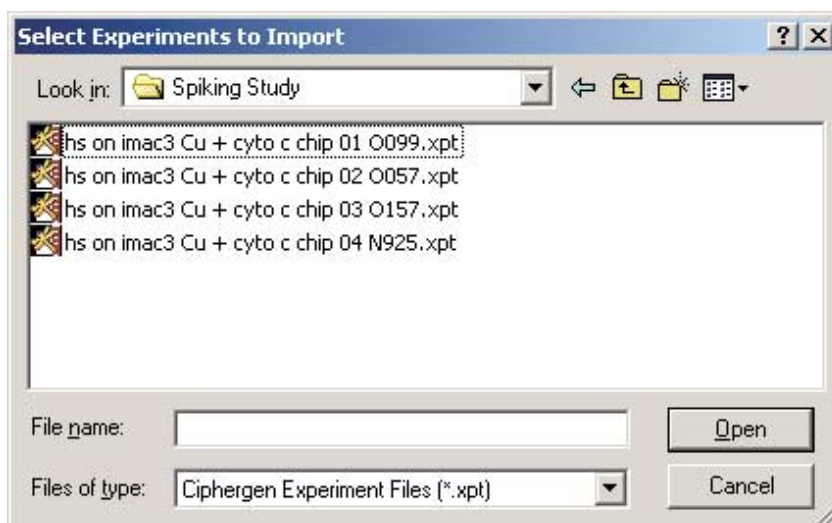

Figure 2-16: The *Select Experiments to Import* dialog.
- Click the ... button to open the **Select Experiments to Import** dialog (Figure 2-16).